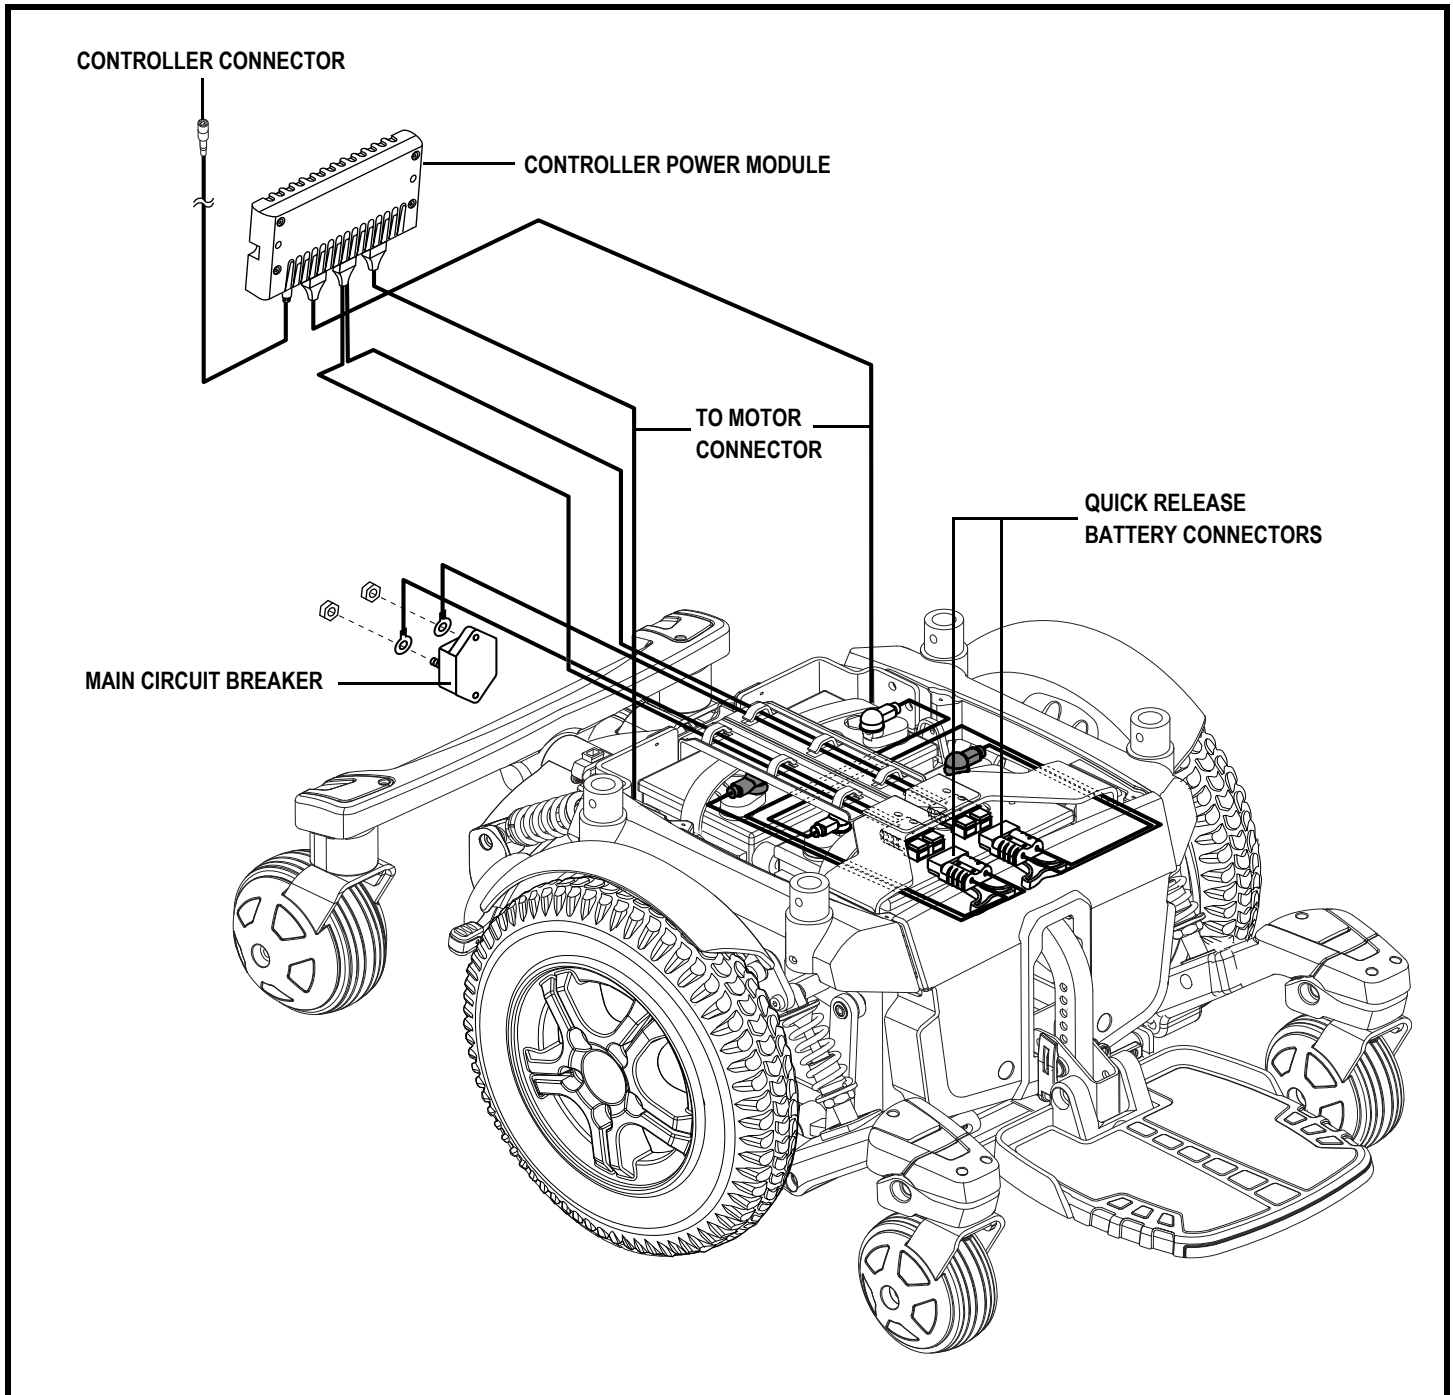

Figure 7. Quantum 6000 Series Electrical Components
The electrical components consist of the controller assembly, the batteries, and the motors. The batteries, motors, and controller power module (if equipped) are located on the power base assembly. The controller is located on the seat assembly. Connectivity between the controller and the motors, batteries, and the battery charger is provided by one or more wiring harnesses. See figure 7.
6. Plug the controller connector into the power base. See figure 7.
4. Disconnect the controller connector(s) from the power base. See figure 7.